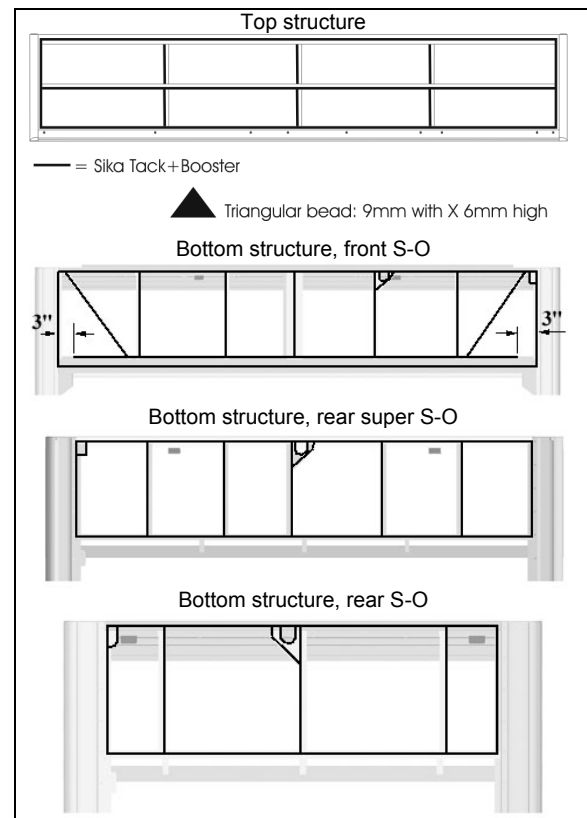
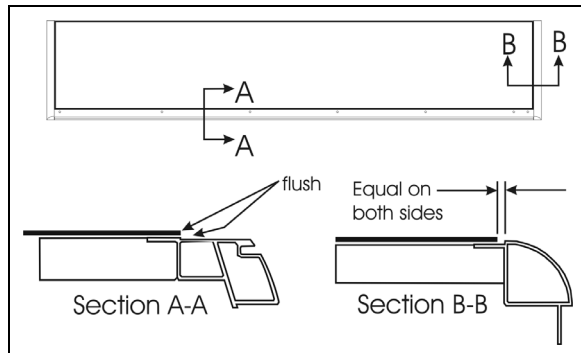
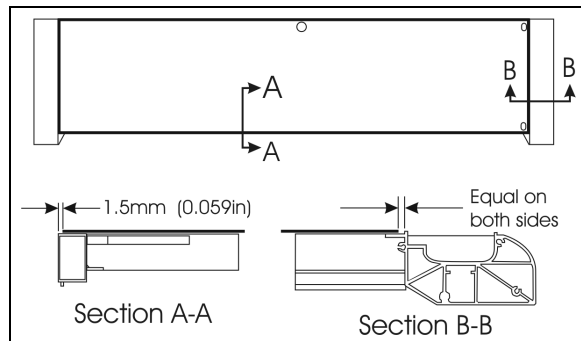

FIGURE 52 : TOP AND BOTTOM PANEL INSTALLATION - SIKA TACK+BOOSTER APPLICATION
FIGURE 53 : TOP PANEL INSTALLATION
FIGURE 54 : BOTTOM PANEL INSTALLATION
5. Apply Sika Tack+Booster (triangular bead: 9mm width X 6mm high) as shown in FIGURE 52 and glue panel in place as shown in figure 53 & figure 54 ;